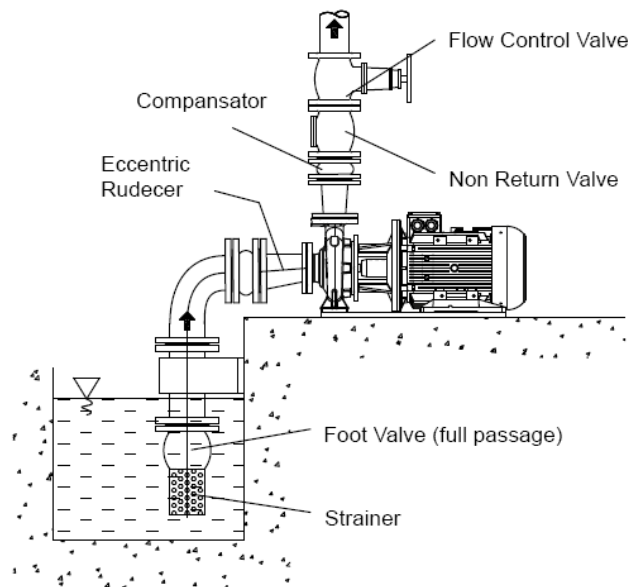

Fig. 2a. Suction Lift
- The suction pipe should be definitely watertight and should not be arranged in a way to cause formation of air pockets. In other words, if it is supplied from a reservoir higher than it (system with elevated suction/supply), the suction pump should be slightly declined towards the pump; and if the pump is supplied from a reservoir lower than it (system with suction depth), then the suction pipe should be gradually inclined slightly towards the pump. Figure 2a and 2b.